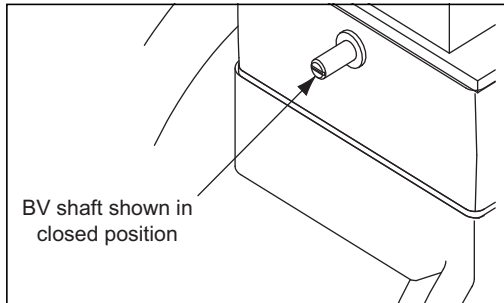

Figure 4.5. Air Butterfly Valve Shaft
- b. There is a slot in the end of the butterfly valve shaft that is parallel to the air damper. This slot is used for visual indication of the butterfly valve position. The butterfly valve is closed when the shaft slot is perpendicular to the direction of air flow through the butterfly valve. See Figure 4.5